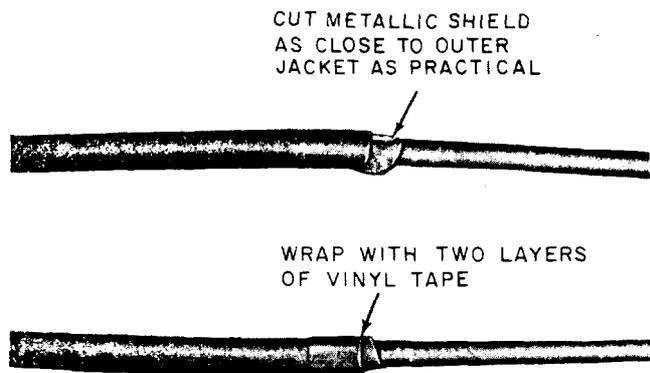
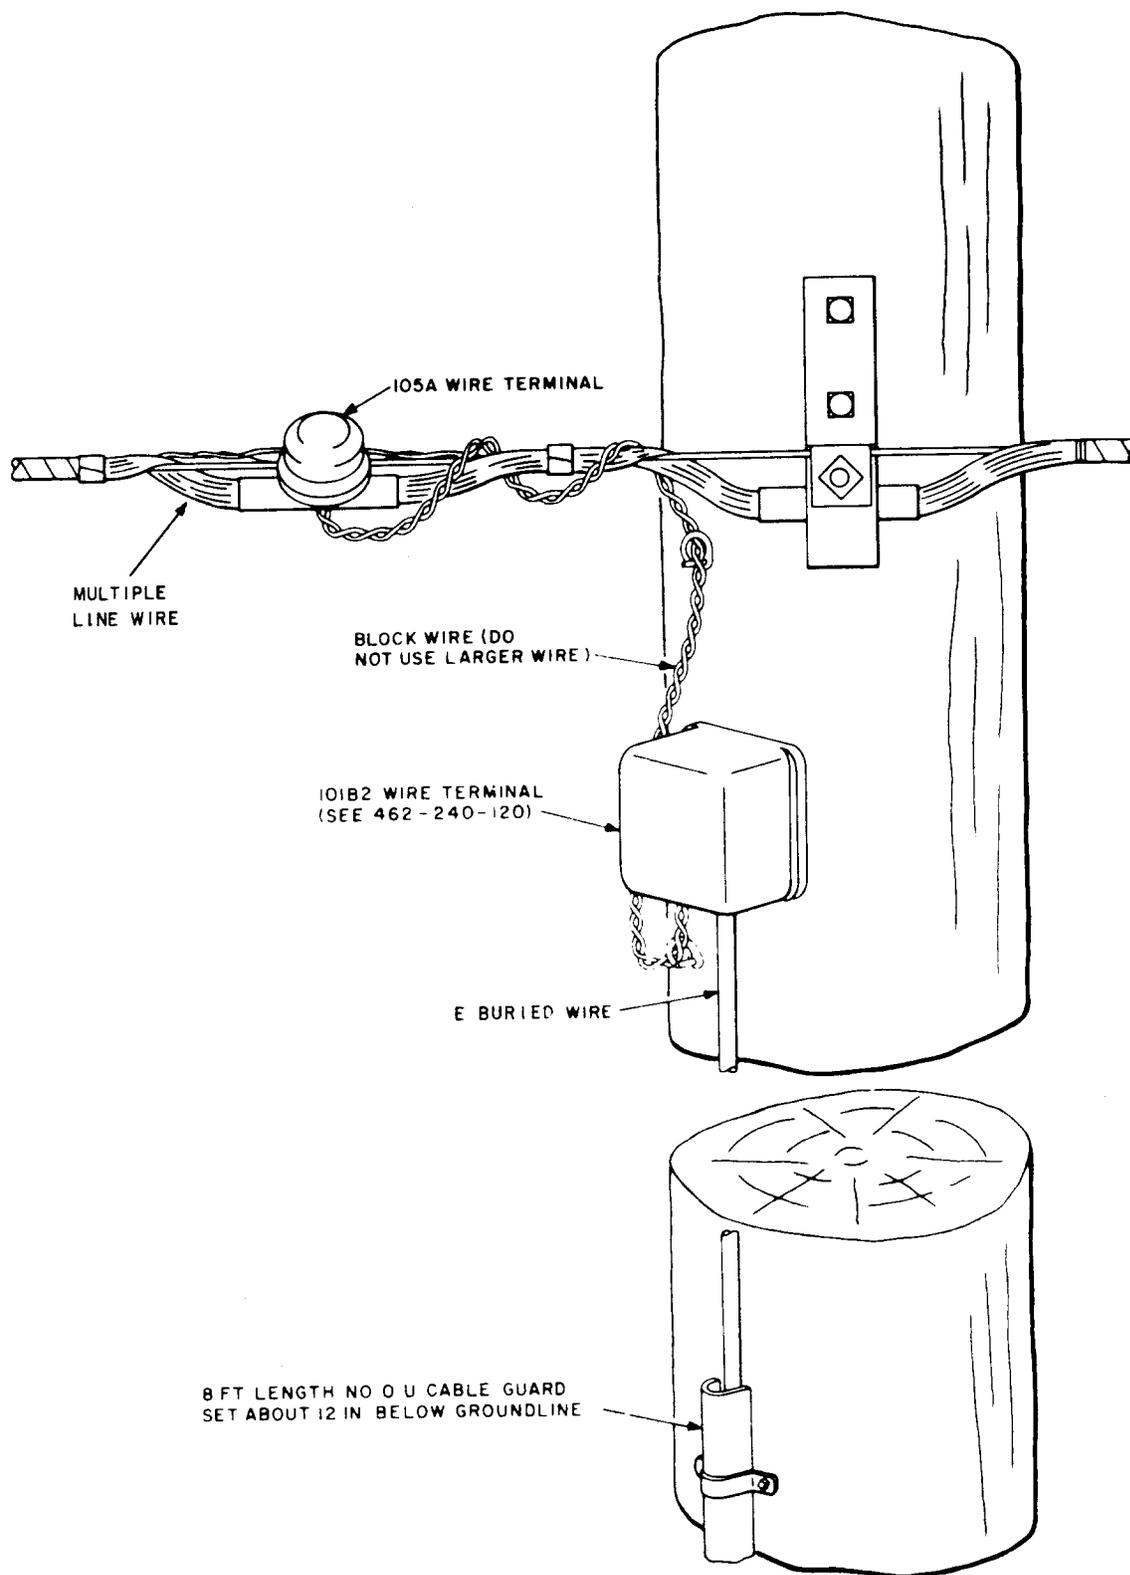
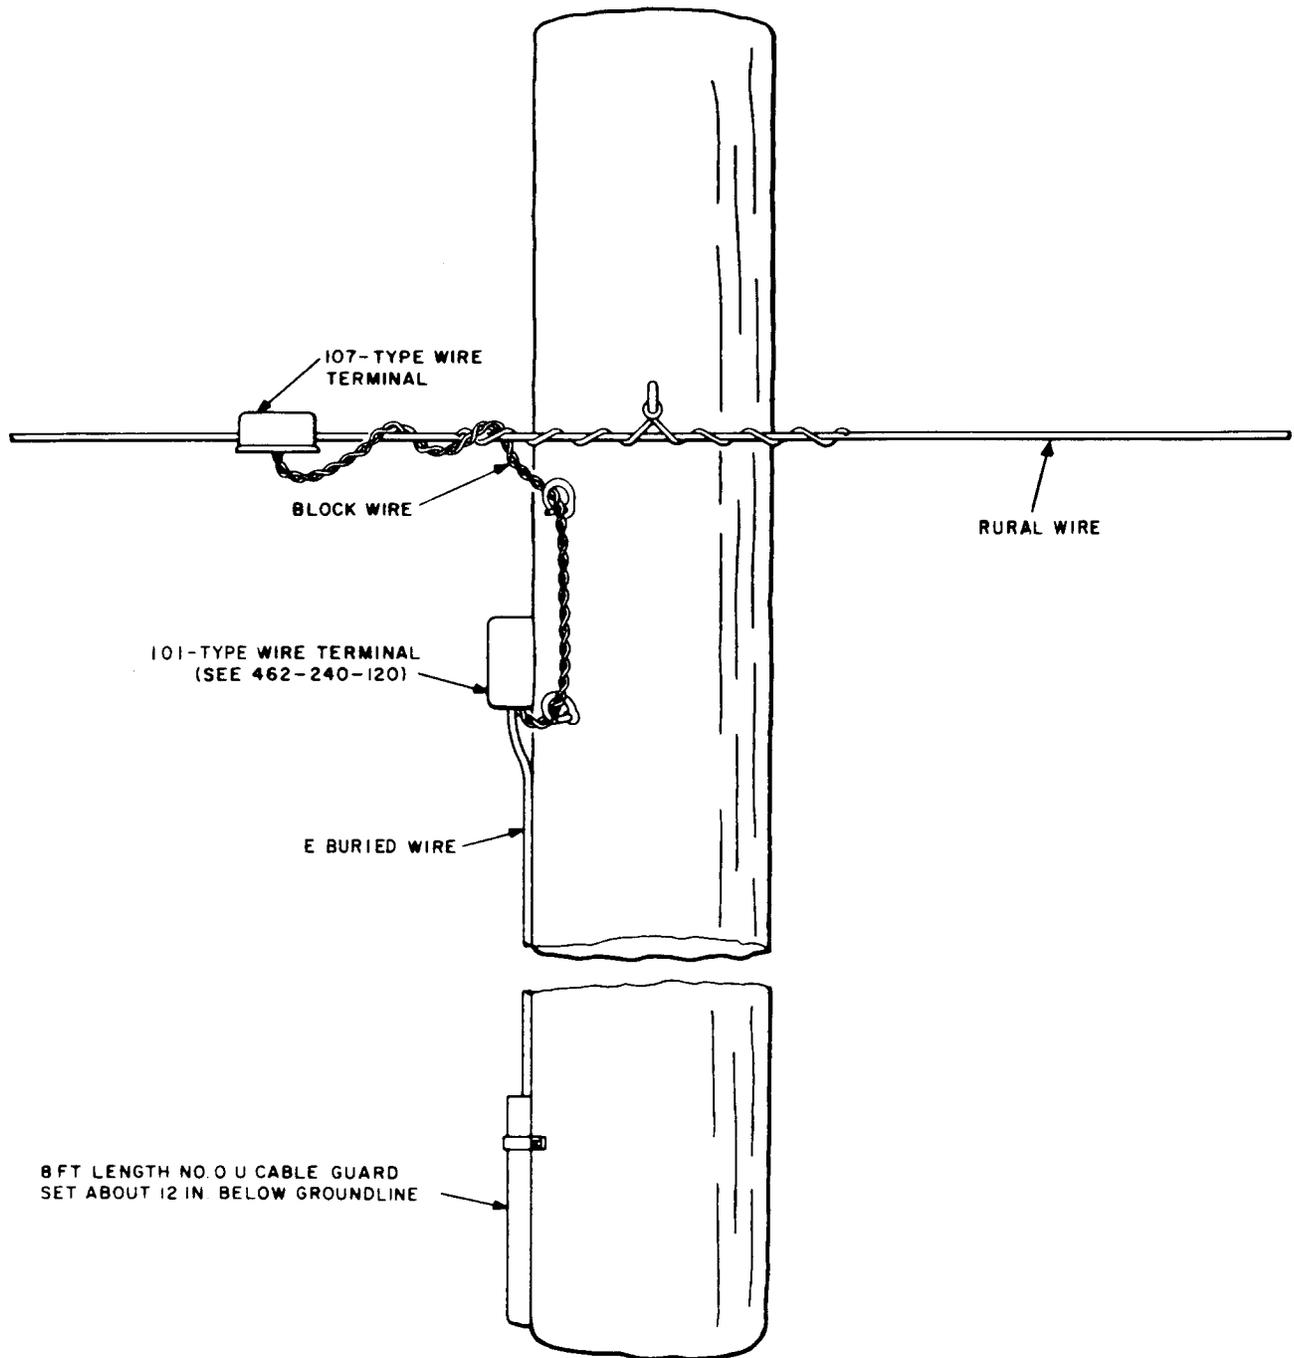
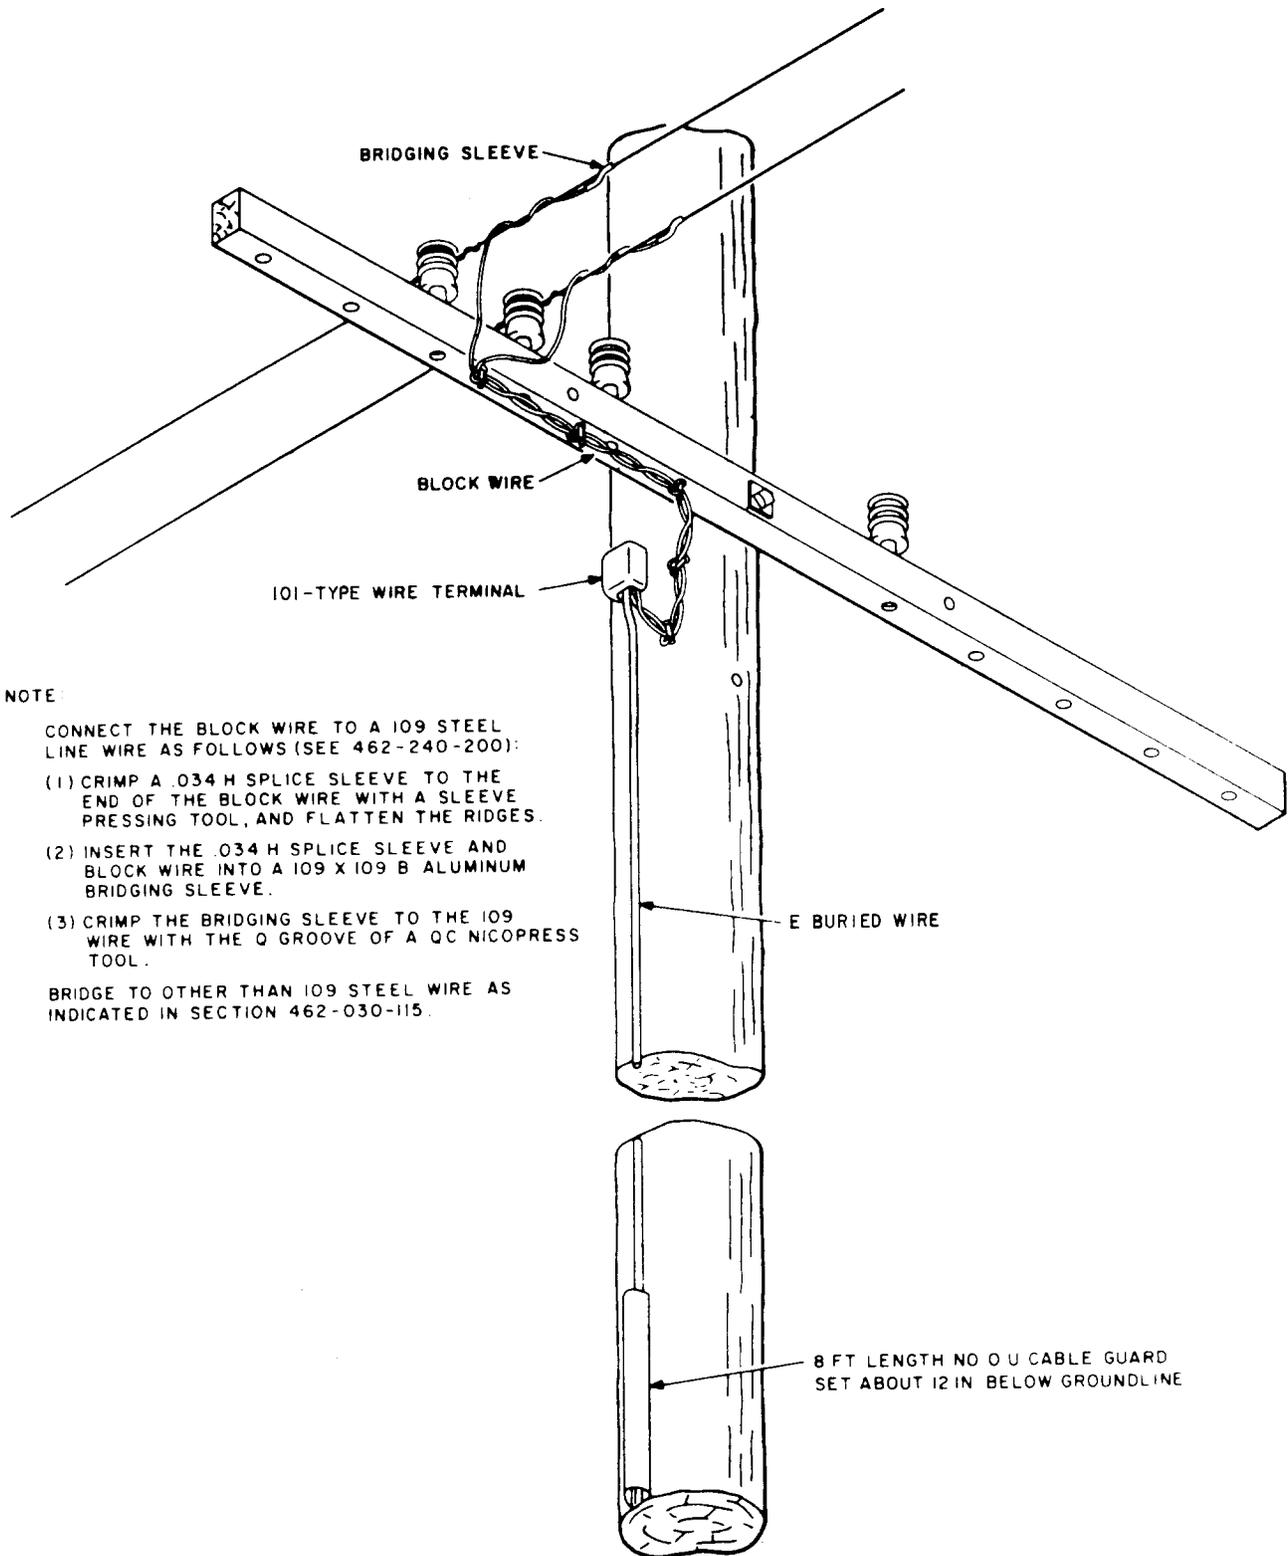

Fig. 26—Removal of Metallic Shield
Fig. 29—E Buried Wire Terminated to Multiple Line Wire
Fig. 30—Termination of E Buried Wire and Rural Wire
Fig. 31—Termination of E Buried Wire and Open Wire
7.04 Where the buried wire is 700 feet or less in length, grounding of the metallic shield at the cable terminal is omitted, unless special lightning protection is required (see 7.07). Cut off the metallic shield at the terminal location and wrap with two turns of vinyl tape to protect against sharp edges (Fig. 26).
8.02 E buried wire can be used with or fed from multiple wire where the multiple wire is exposed to power contact and fuseless station protection is used. E buried wire should be brought up a pole and terminated in a 101B2 wire terminal. The metallic shield should be cut back and taped as shown in Fig. 26. Connect the conductors of E buried wire to the conductors of the multiple wire with block wire. At the groundline the wire should be covered with an 8-foot length of No. 0 U cable guard. Fig. 29 shows a typical example of E buried wire being connected to a 105-type wire terminal.
9.02 At the junction with C rural wire, E buried wire can be brought up a pole and terminated in a 101B2 wire terminal. The metallic shield should be cut off and taped as shown in Fig. 26. Block wire should be used to bridle between the 101B2 wire terminal and the 107-type wire terminal on the C rural wire. At the groundline, the E buried wire should be covered with an 8-foot length of No. 0 U cable guard. A typical installation is shown in Fig. 30.
10.02 At the junction with open wire, E buried wire can be brought up a pole and terminated in a 101B2 wire terminal. The metallic shield should be cut off and taped as shown in Fig. 26. Block wire must be used between the protector and the open wire. At the groundline, the wire should be covered with an 8-foot length of No. 0 U cable guard. A typical installation is shown in Fig. 31.